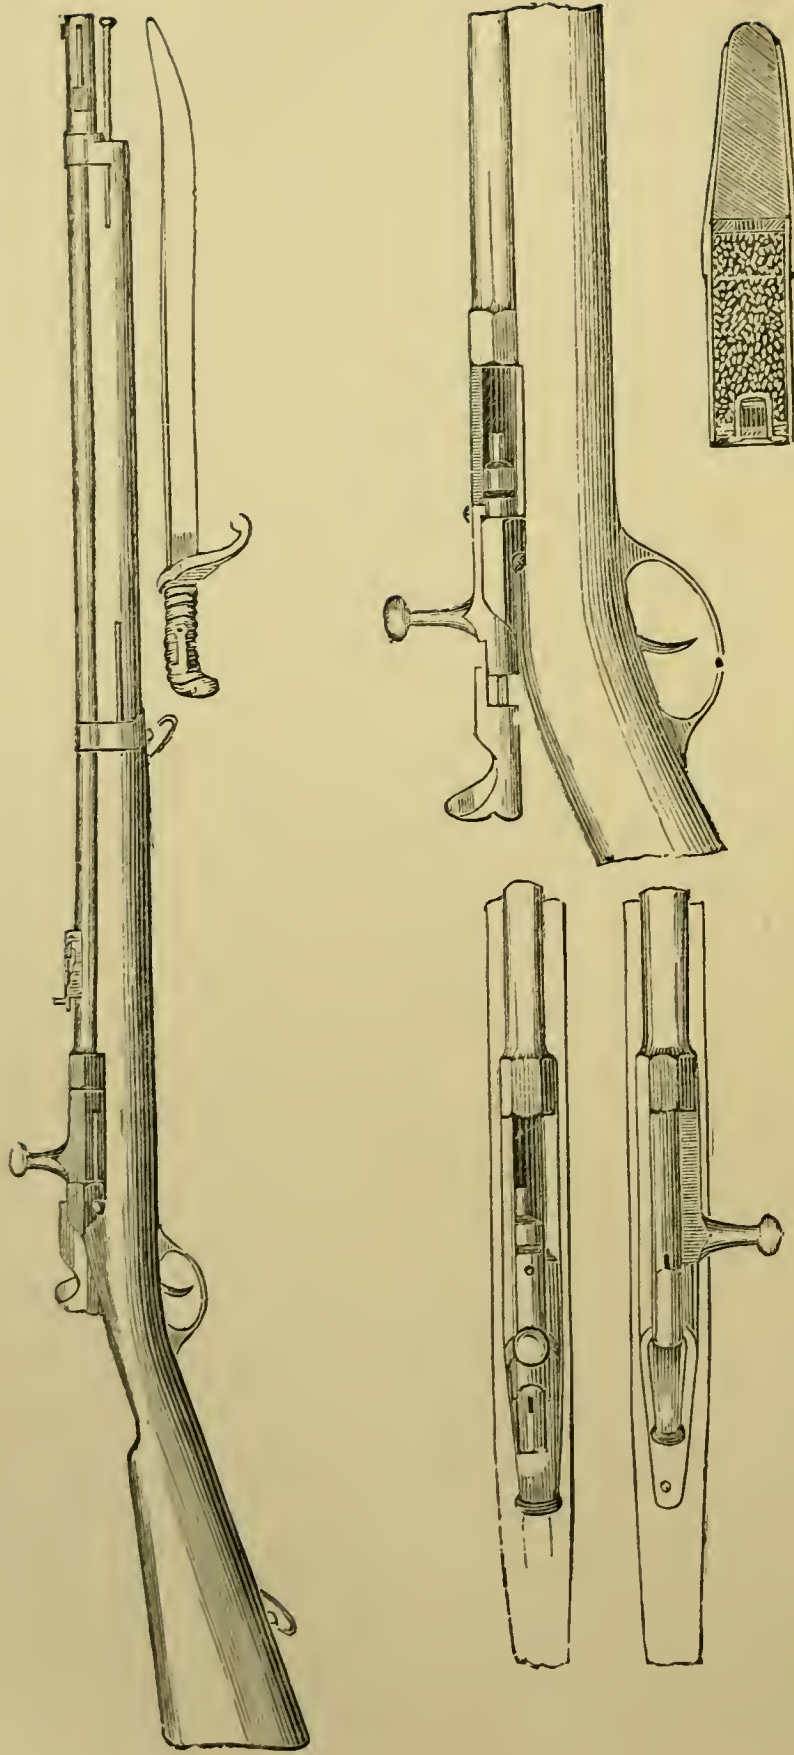

Fig. 95. — The French Chassepot.
This arm is, in principle, the same as the Prussian needle-gun, but is certainly an improvement both in the action and barrel. The piece is cocked by the thumb, as is the needle-gun; the bolt is then turned one-quarter of a circle to the left and drawn back; the cartridge is put in and pushed home by the bolt; this bolt is turned back one-quarter of a circle to the right; the piece is then ready for firing. It is loaded when at full cock. To put the rifle at half-cock, the bolt must be turned only about one-eighth of a circle. To do this the trigger must be gently pulled, which will allow the cocking arrangement to enter a slot in the bolt-plunger. This movement effectually locks the breech-action, and answers the purpose of a safety bolt. It can only be fired by bringing it to full cock with the thumb and turning the bolt completely down. The point of the bolt enters the barrel, and is fitted with an india-rubber washer, which partially prevents the escape of gas. Fig. 95, page 182, represents this rifle, with the breech-action in separate parts; also the cartridge, which is differently constructed to that of the needle-gun, the ignition being placed in a percussion cap near the base. The needle enters the cap, which is so placed that the opening is towards the breech arrangement, thus the needle strikes the inside of the cap instead of the outside. The great improvement in the Chassepot is the barrel, which is a small-bore (434), made of steel, and takes the large charge of 85 grains, and a solid conical bullet (weighing 380 grains). The extreme range is 1,800 yards; the weight of the rifle complete with the sword bayonet is 11 lbs.